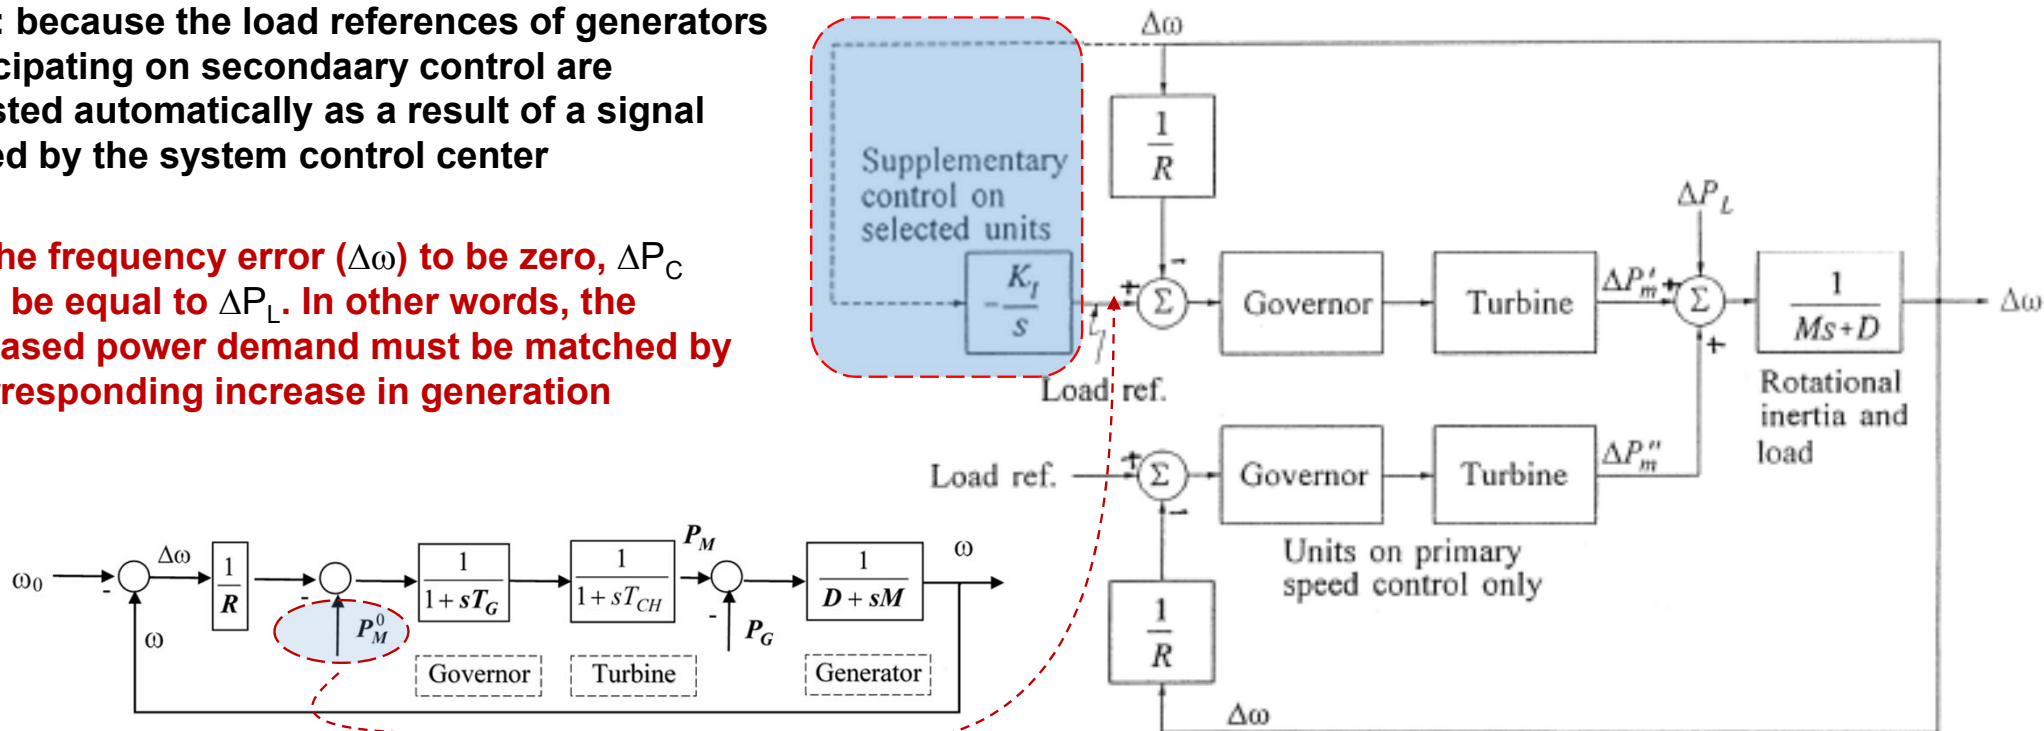

Figure 11: Addition of integral control on generating units selected for AGC
- This is achieved through supplementary control as shown in Figure 11.